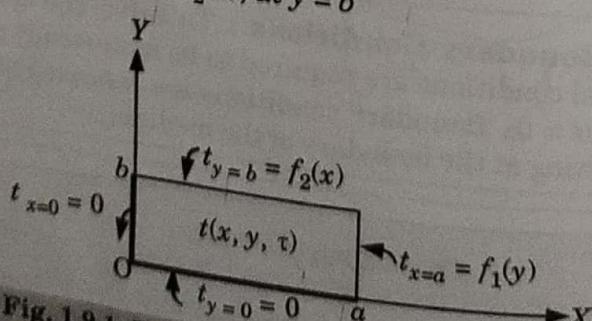

Fig. 1.9.1. Boundary condition of the first kind.
2. A typical example of boundary condition of the first kind for a slab is shown in Fig. 1.9.1.